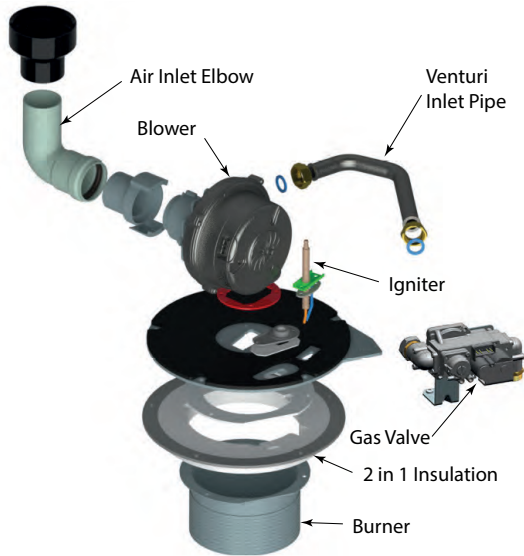
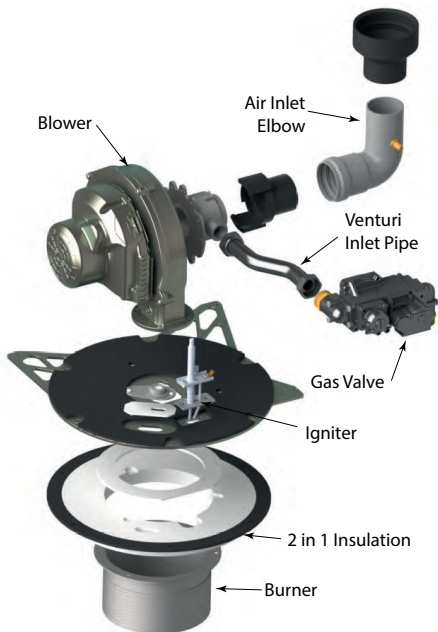

Fig. 2: Instinct 155 Burner Assembly
Fig. 3: Instinct 199 Burner Assembly
1. Align the burner/combustion chamber insulation with the gas valve facing the front of the boiler. See Fig. 1, Fig. 2, Fig. 3.